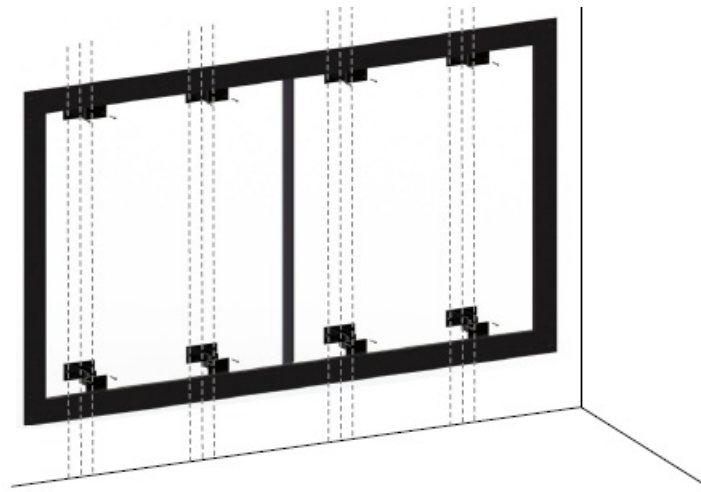

Figure 6: Mounting the frame with the Telescoping Mounts
12. Use the provided 2" screws or other appropriate fasteners to secure the Telescoping Mounts to the wall studs (see Figure 6).